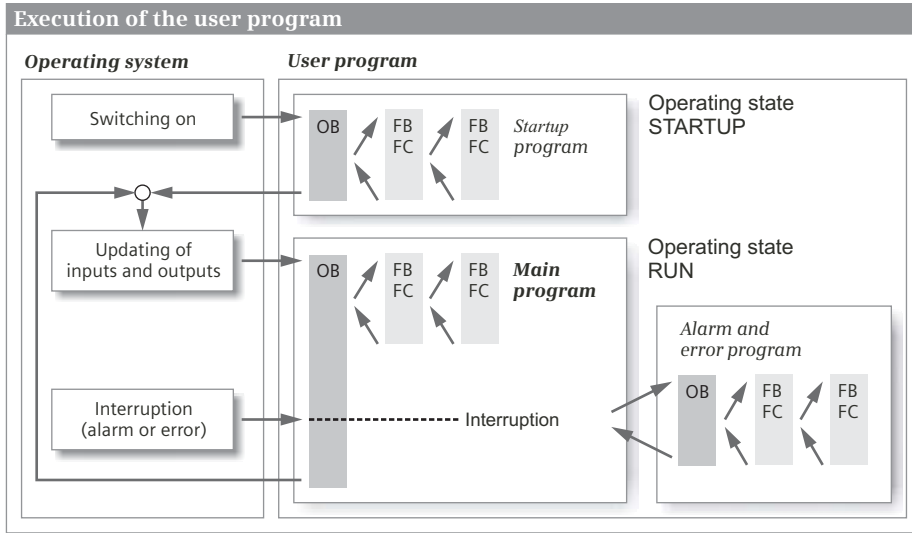

Fig. 1.10 Execution of the user program
The user program is usually divided into individual sections called “blocks”. Organization blocks (OB) represent the interface between operating system and user program. The operating system calls an organization block for specific events and the user program is then processed in it (Fig. 1.10).